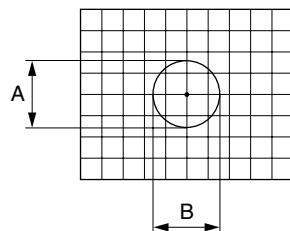

Fig. 3-17
- 6** Move the scale, and make sure that the amplitudes A and B (see Fig. 3-17) of the Lissajous' figure are within the range of the specified values over the entire length.